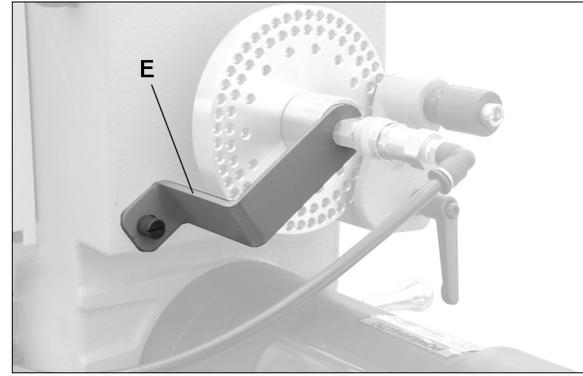

Figure 13
4. Install support bracket (E, Figure 13) with knurled screw. This prevents adaptor from backing out during spindle rotation.